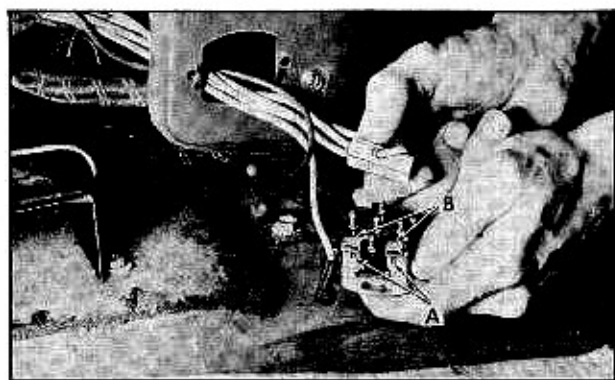

Fig. 3-54 Removing Seat Switch Assembly
2. Pull switch assembly away from seat side panel and detach regulator switch block and wires from switch. Fig. 3-54.
2. Through escutcheon hole "A", Fig. 3-54, depress tab of clip "B" sufficiently to permit clip to be removed. Repeat this on three remaining clips and remove switch from escutcheon.
(52) Front Seat Side Panel Removal and Installation